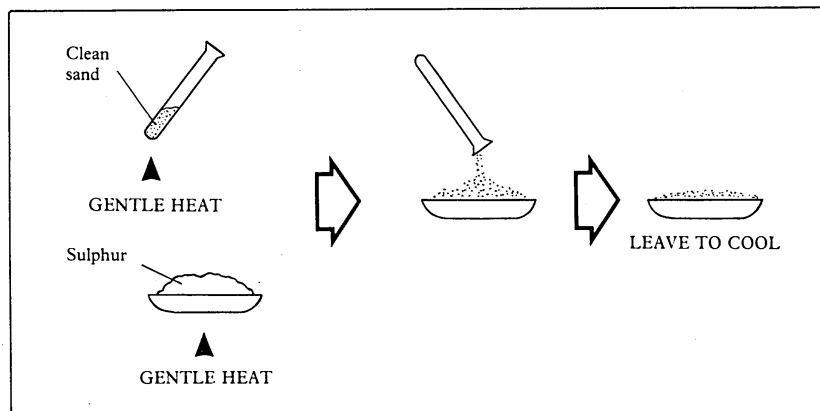

Figure 3 Making sulphur concrete
- E Carefully pour the warm sand into the molten sulphur. The liquid sulphur will soak into the sand. Go on pouring until all the liquid sulphur is soaked up. You have now made liquid sulphur concrete. Figure 3 summarizes the procedure.